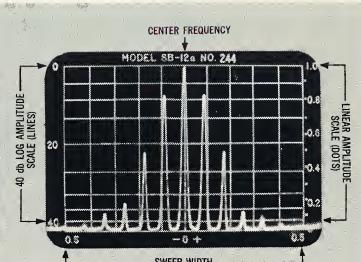

FIGURE 3
**Center Frequency:** (For linear scans) The frequency at the center of the spectrum display, (usually tunable). (See Figure 3)